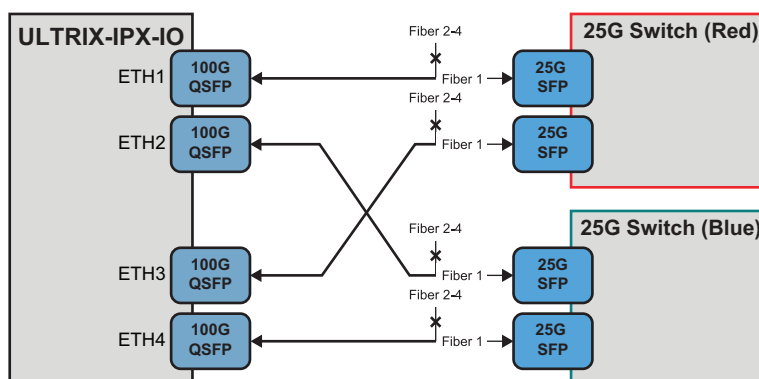

Figure 40 Workflow — QSFP/Breakout to SFP (25G Switches)
**Figure 40** shows a simplified workflow where the ULTRIX-IPX-IO provides bi-directional communication via four 100G QSFP using breakout fiber cables connected to two 25G ethernet switches. In this workflow, the breakout cable fibers 2 to 4 are unused.